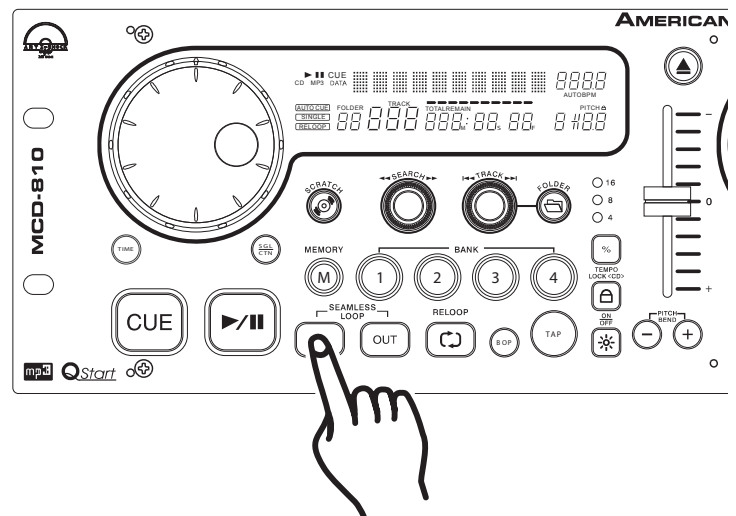

Figure 13
A cue point is the exact point playback will begin when the **PLAY/PAUSE BUTTON (22)** is pressed. You may set your cue points anywhere on a disc or in a track. You may set up to four independent cue points per disc. Four cue points are stored in the **BANK BUTTONS 1-4 (7)** and one is shared by the **IN BUTTON (21)**, and the **CUE BUTTON (23)**. There are two (2) ways to set and create a CUE point as detailed in figures 13 and 14
- 1) You may press the **IN BUTTON (21)** on the fly (while the disc is playing). This will set a CUE Point without music interruption. Pressing the **CUE BUTTON (23)** will now return you to the same point that you pressed the **CUE BUTTON (23)**. You may now store this CUE Point in any of the **BANK BUTTONS 1-4 (7)**. Pressing the **CUE BUTTON (23)**, or the **IN BUTTON (21)** will now return you to this exact point.